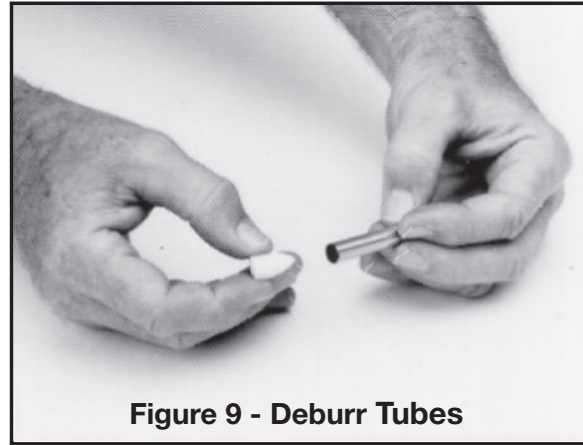

Figure 9 - Deburr Tubes
6. The inside and outside of the tubes must be deburred after cutting. Use the stone which is provided for this purpose. Make sure there are no sharp edges on either tube inside and outside so as not to damage the cables. (See Figure 9.)